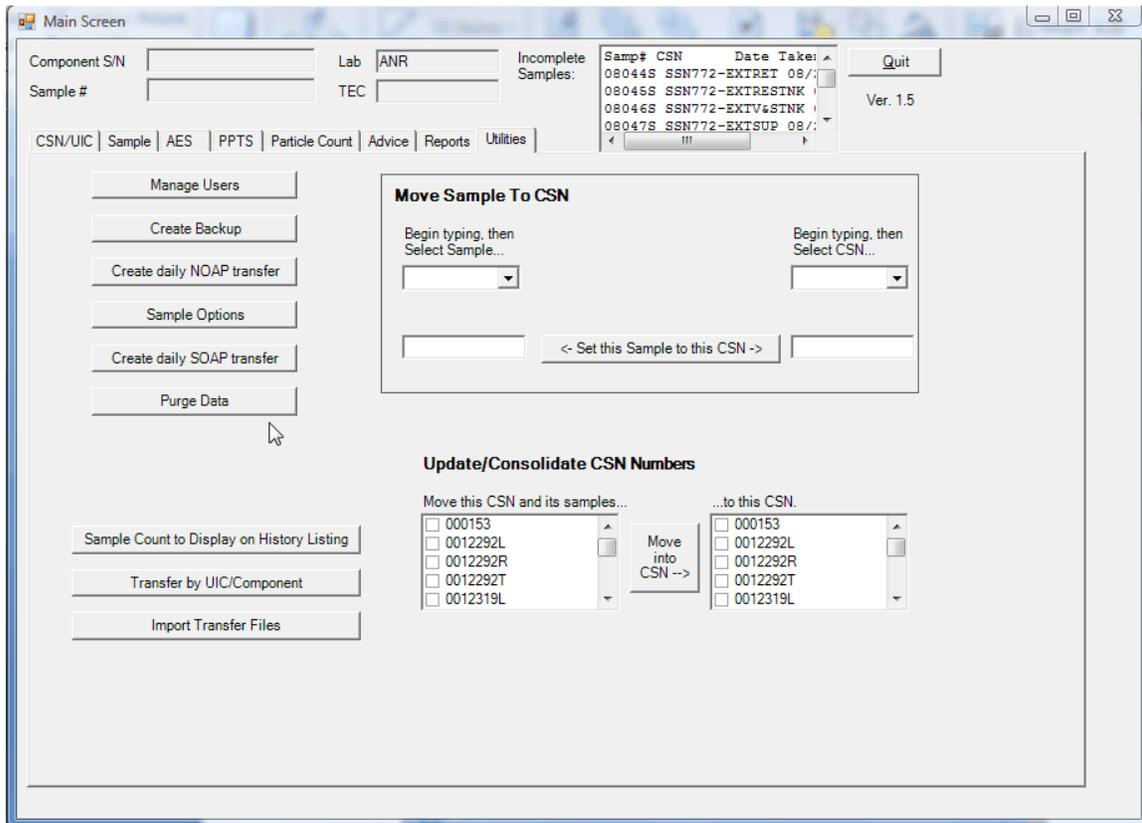

Figure 72. Utilities Tab
- a. Manage users (adding/deleting/modifying users). From the main sample screen press the Utilities tab and the following screen will appear (Figure 72). If your user account is not authorized you will not see the utilities tab.